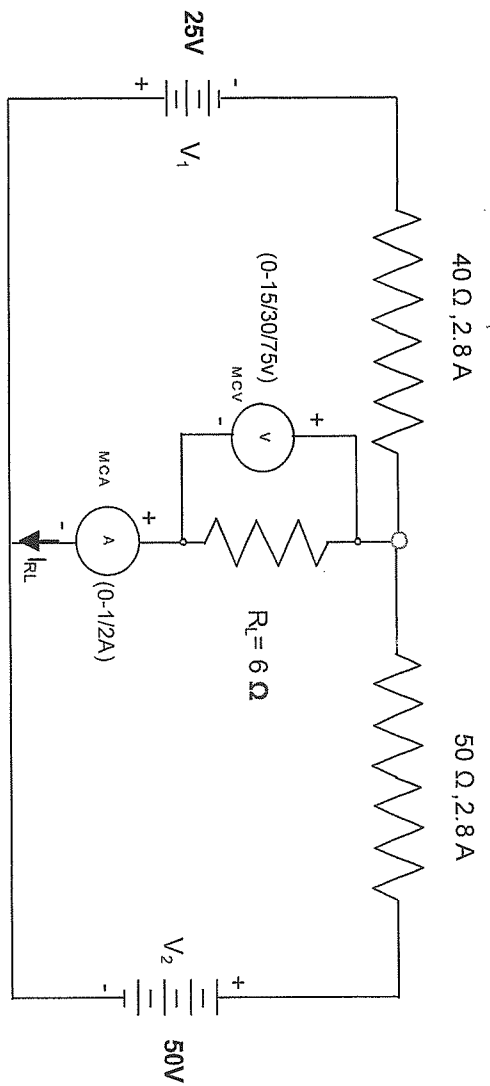

Fig: 2.1 Circuit Diagram for Conducting Experiments on (1) Superposition Theorem (2) thevenin's Theorem
1. Make connections as shown in the diagram Fig.2.1.
1. Remove the resistance R_L and measure the open circuit voltage (V_{th}) across a & b (Fig.2.1) and tabulate in the DATA SHEET to be prepared by you as shown in Table-II of the SAMPLE DATA SHEET